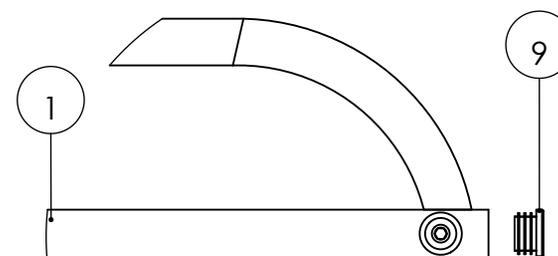

Figure 4
- Attach the Plastic End Caps.** As shown in Figure 4, slide the Plastic End Caps (Item No. 9) onto the ends of each Siderail (Item No. 1).